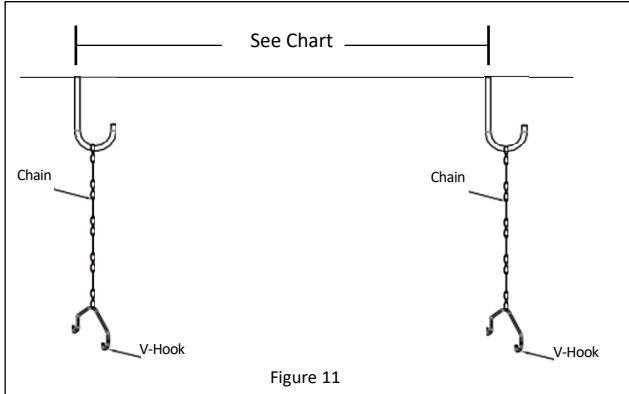

Figure 11
2. Place the link that gives you the desired mounting height on the hook and thread the V-Hook through the last link in the chain as shown in **Figure 11**.